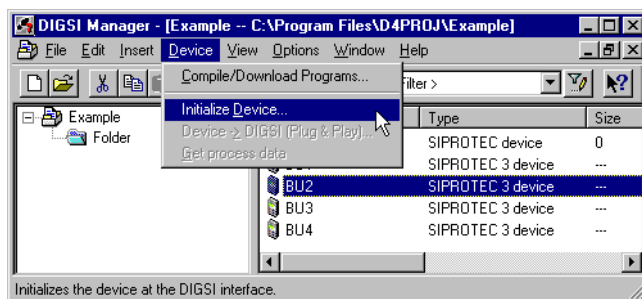

Figure 8-3 Initializing the device with DIGSI – Example
- Select in the menu bar under **Device** the option **Initialize Device** (Figure 8-3, page 329).